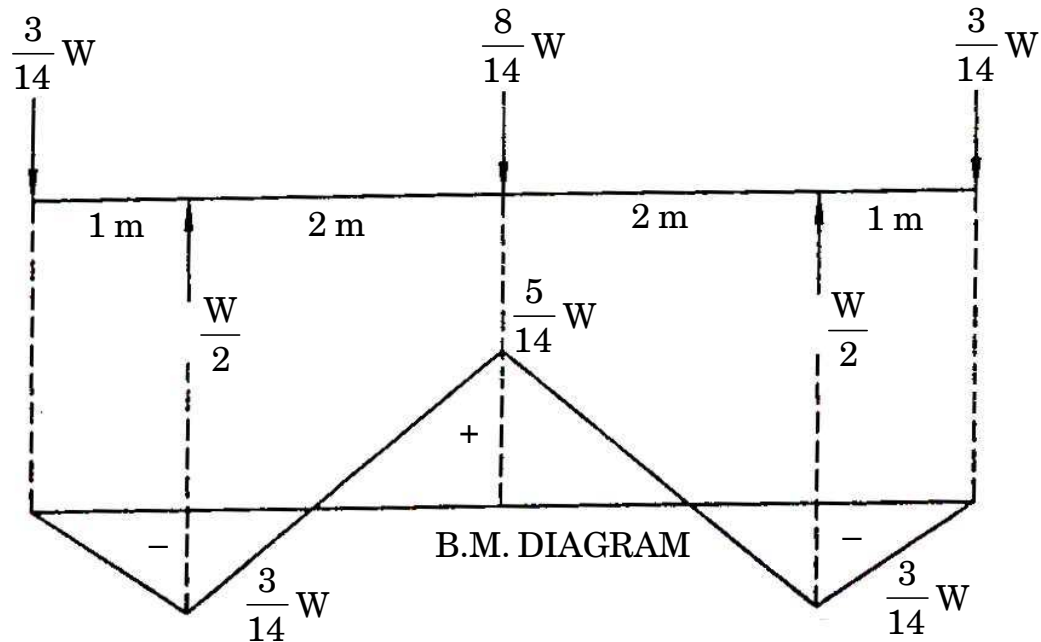

Fig. 8
8. (a) A beam of T section 6 metre long supports the load system shown in Fig. 8 which shows also the bending moment diagram for the beam. The beam has flange width of 100 mm and overall depth of 120 mm. The flange and web are 20 mm thick. The section is placed with the flange at the bottom. Find the safe value of 'W' if the stresses in compression and tension shall not exceed 90 N/mm^2 and 50 N/mm^2 . [8]